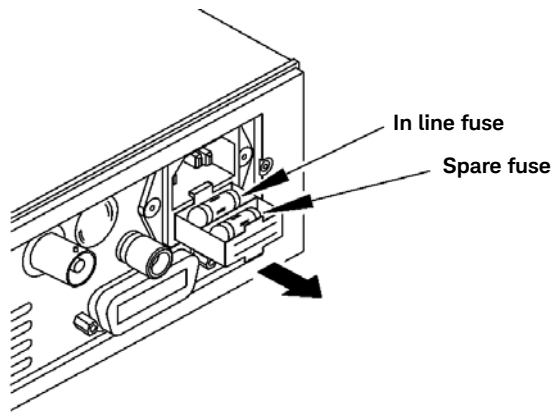

Figure 8-4 Replacing the fuse
- 2 Slide the fuse holder assembly from the rear panel as shown in **Figure 8-4**.
- 3 Install the correct fuse in the "In line" position as shown in **Figure 8-4**. (A spare fuse can be stored in the fuse holder assembly.)